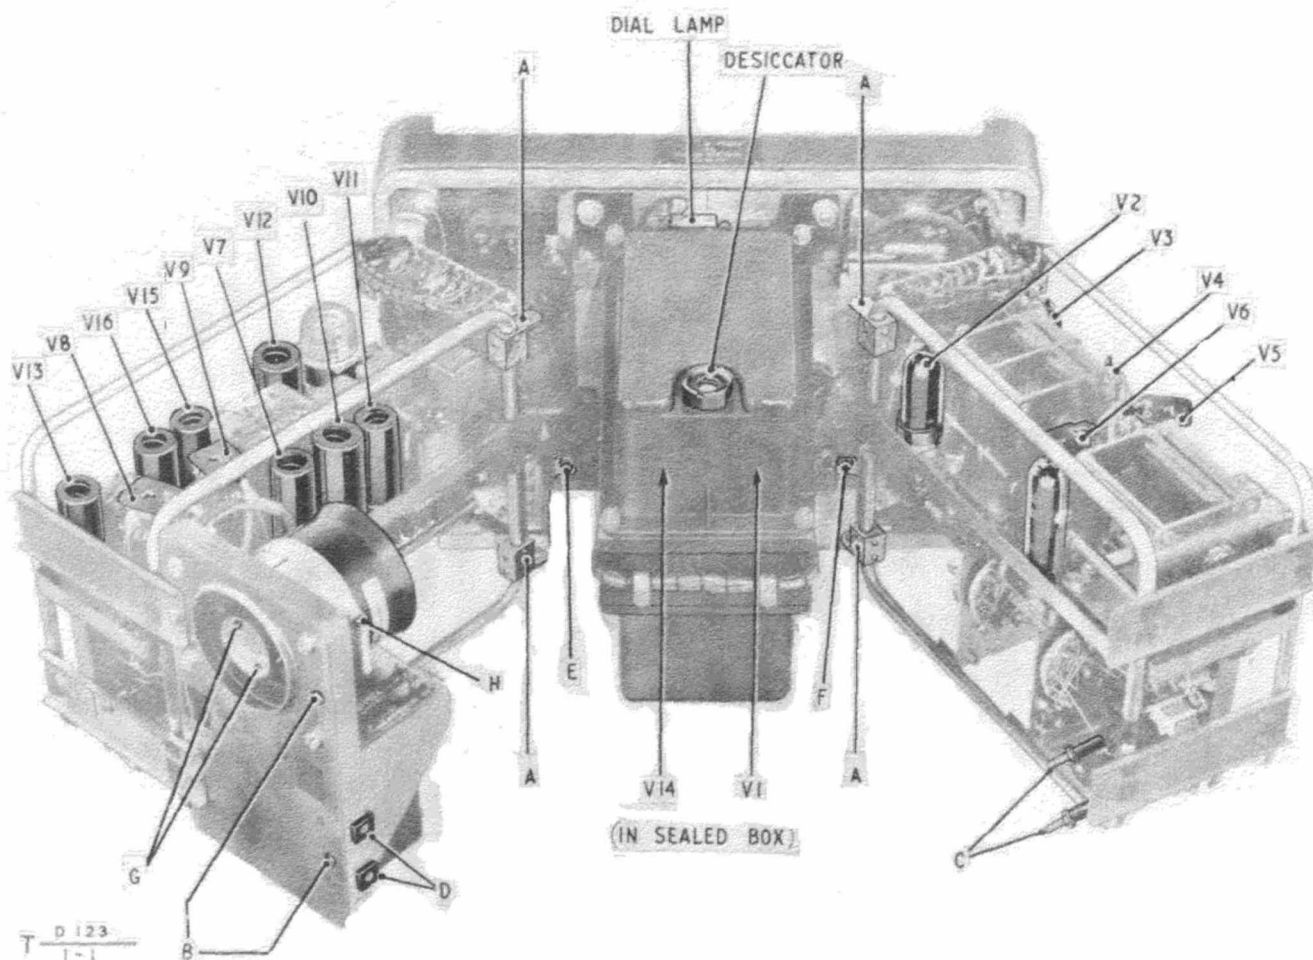

Fig 1 - General layout of sender assembly
12. (a) If it is necessary to unhinge the chassis eg to replace a blower motor, refer to Fig 1 and proceed as follows:-
- (b) The chassis will now hinge open to approximately the extent shown in Fig 1. If it is necessary to open further, loosen the four No 4 BA nuts E and F securing the filter holders until they can be depressed sufficiently to allow the chassis to be swung fully open.
14. To replace the motor assembly (see Fig 1):-
17. Valves may normally be replaced without need of readjustment other than the usual setting up procedure. If V1 or V14 are changed action as in para 3 must be taken and if V12 is replaced, action as in para 4. Fig 1 gives the layout of the valves and Table 2 lists the functions and type numbers. Note that some valves are connected in series, therefore the fact that a valve does not light up does not indicate that that particular valve is faulty.